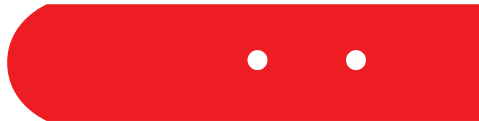

Figure 21 SH-3 needle guide for pilot holes
- The needles on the SH-3 dual-needle sensor must remain parallel to each other during insertion to make an accurate reading. Use the SH-3 needle guide (Figure 21) when making pilot holes to ensure that the needles have the correct spacing.